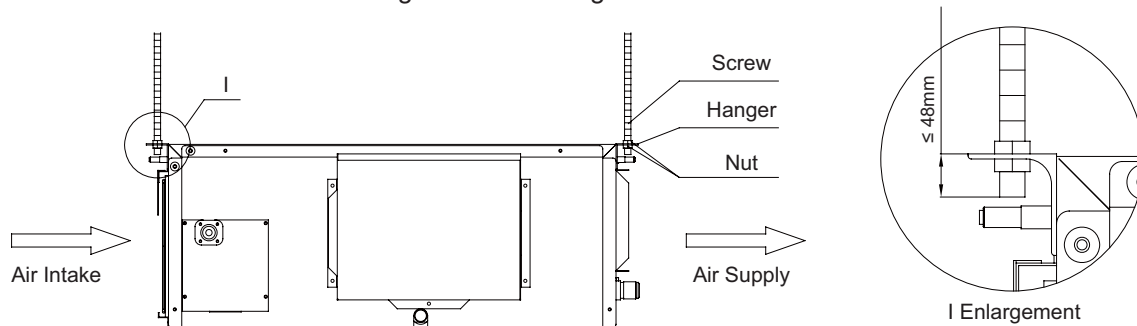

Figure 1-1-5
- ◆ Install the indoor unit at the ceiling as shown in Fig 1-1-5.